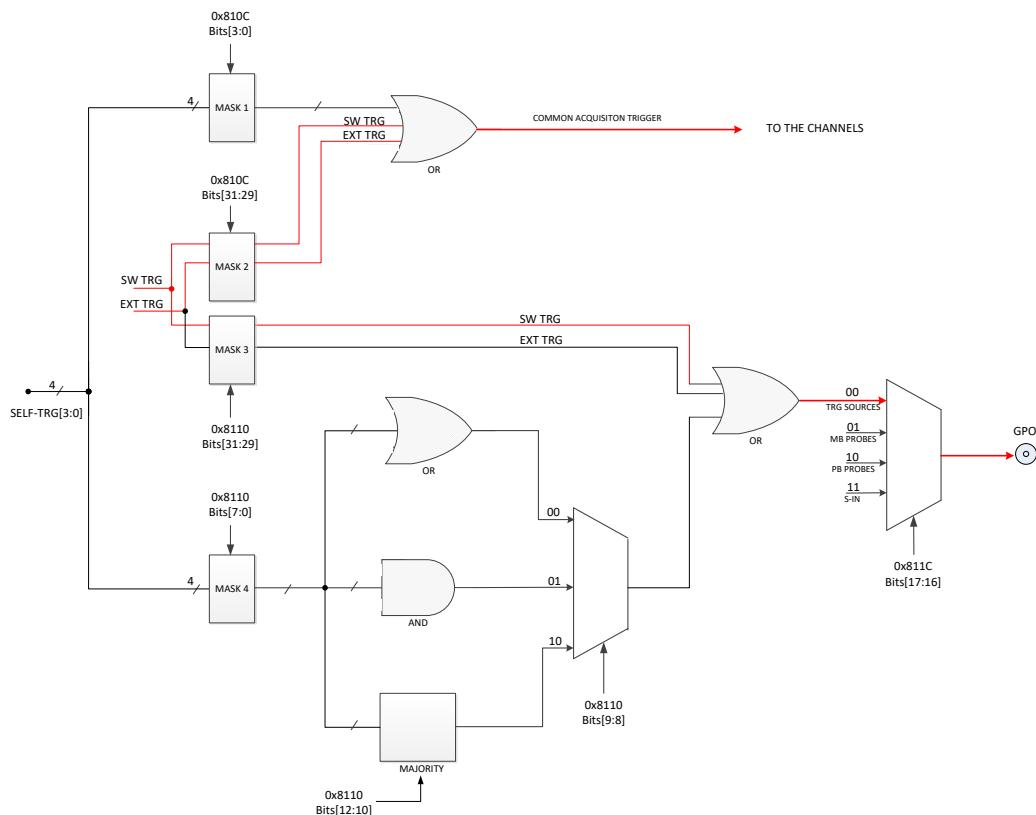

Fig. 8.20: Trigger configuration of TRG-OUT front panel connector.
As described in Sec. **Trigger Management**, the OR of all the enabled trigger sources, synchronized with the internal clock, becomes the common trigger of the board that is fed in parallel to all channels, consequently causing the capture of an event. By default, only the Software Trigger and the External Trigger participate in the common acquisition trigger (refer to the red path on top of Fig. 8.20).
- the OR of all the enabled trigger sources (only the Software Trigger is provided by default, as in the red path of Fig. 8.20);